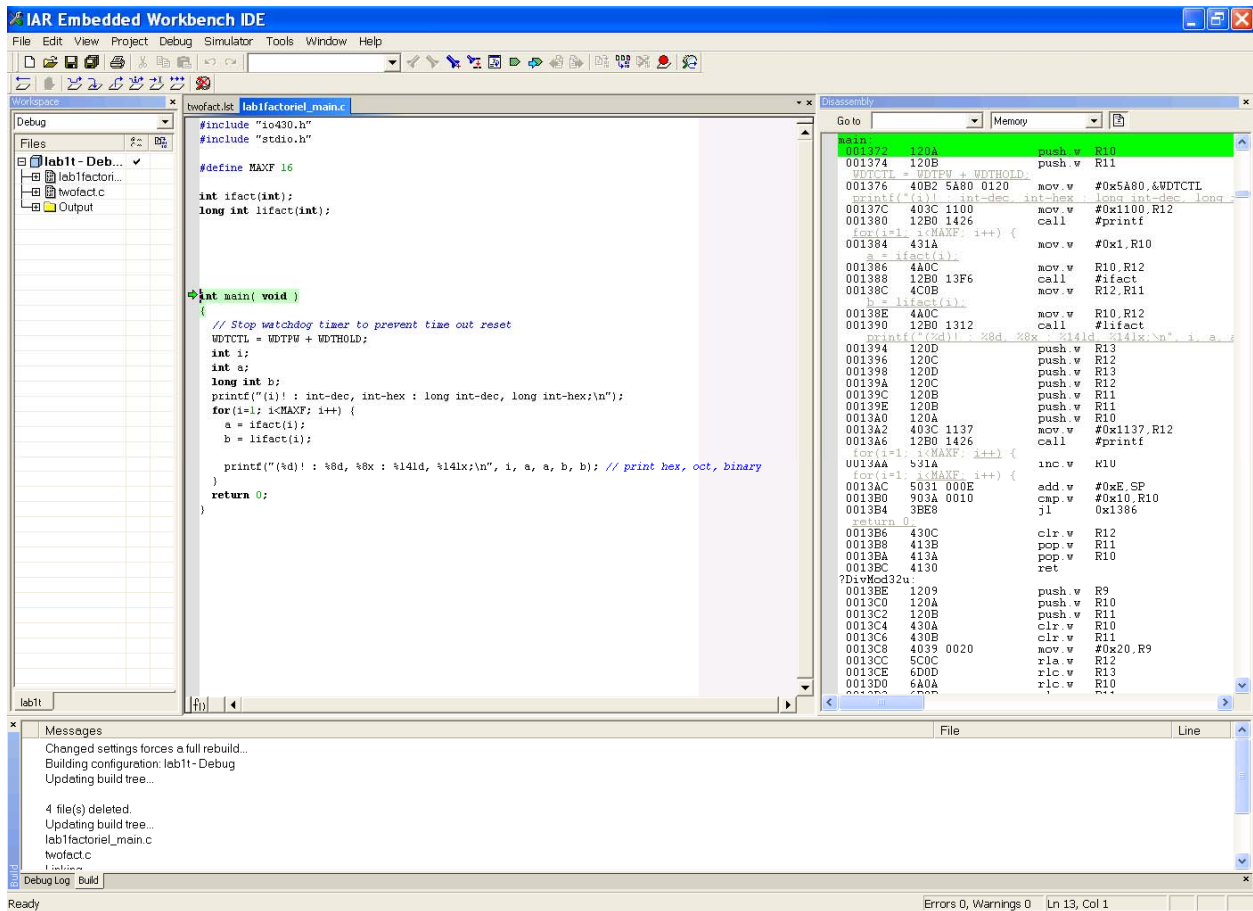

Figure 10. The C-SPY debugger main window.
Step 2. Choose *Project>Debug*. Alternatively, click the *Debugger* button in the toolbar. The IAR C-SPY Debugger starts with the lab1t.d43 application loaded. In addition to the windows already opened in the Embedded Workbench, a set of C-SPY-specific windows are now available (Figure 10).